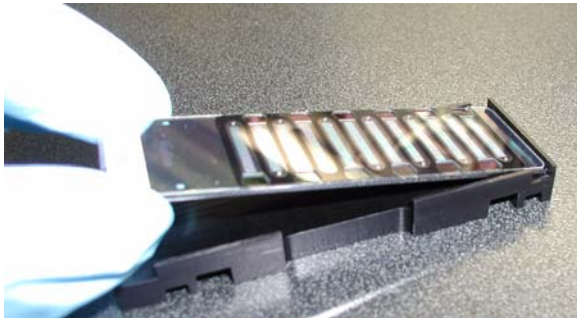

Figure 120 Matching the Barcode End to the Insert Fixture
3. Remove slides from the Robot BeadChip Alignment Fixtures and place them carefully into the Hyb Chamber inserts, matching the barcode end to the ridges indicated on the insert fixture (Figure 120).